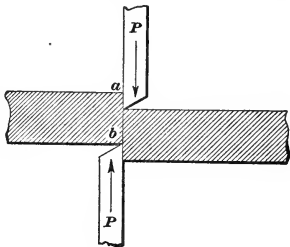

FIG. 6.
**48.** The shearing strength of any material is the resistance offered by its fibers to being cut in two. Thus, the pressure of the cutting edges of an ordinary shearing machine, Fig. 6, causes a shearing stress in the plane  $ab$ . The unit shearing force may be found by dividing the force  $P$  by the area of the plane  $ab$ .